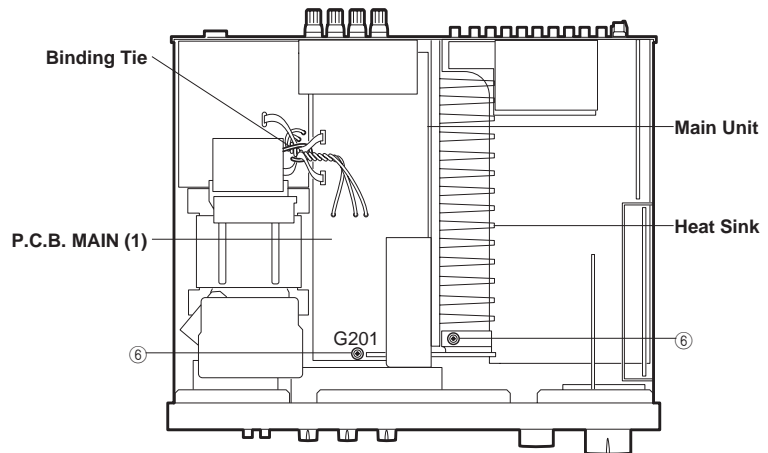

Fig.3
- Remove the Binding Tie fixing P.C.B. MAIN (1)'s wiring in Fig. 3.
- Remove 2 screws (⑥) fixing the Main Unit in Fig. 3.